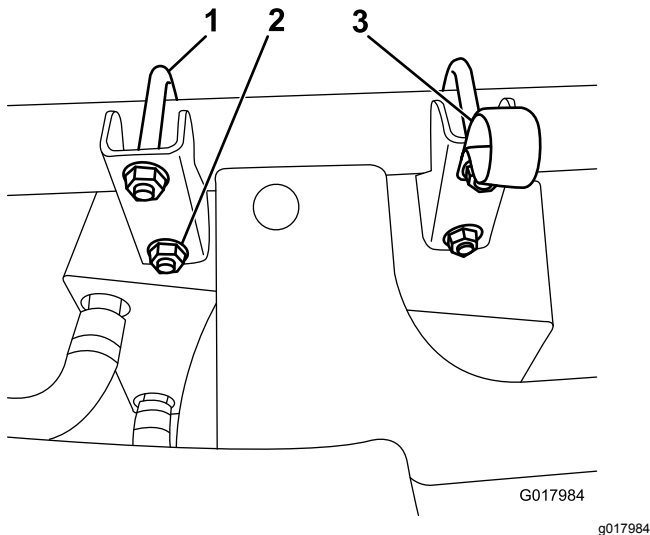

Figure 4
2. Attach the heater and bracket assembly onto the front frame tube using the U-bolts and flange nuts (Figure 4).
3. Attach the R-clamp under the top nut closest to the center of the machine (Figure 4).